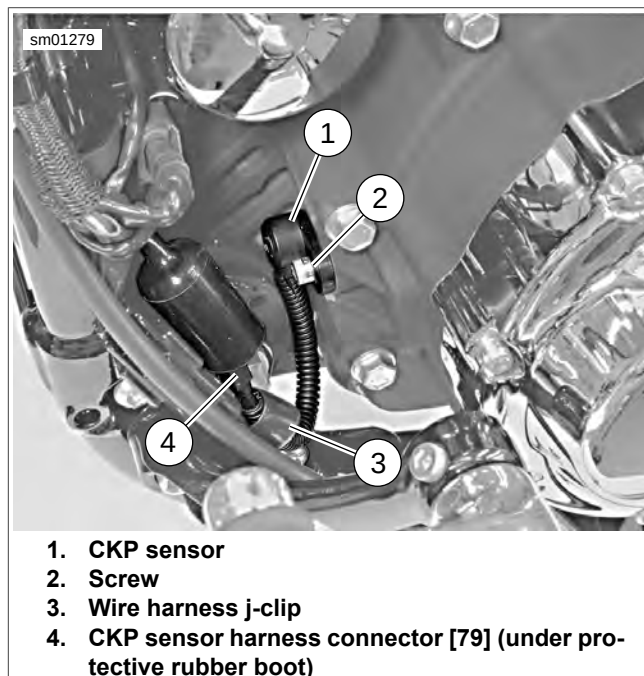

Figure 6-88. CKP Sensor (typical, XL model shown)
2. See Figure 6-88. Disconnect CKP sensor harness connector [79A] from wiring harness connector [79B] (4), located along left frame downtube.
3. Remove CKP wire harness from j-clip (3).
4. Remove screw (2). Carefully remove CKP sensor (1) and O-ring from engine crankcase.
1. See Figure 6-88. Carefully install CKP sensor (1) and O-ring into engine crankcase with screw (2). Tighten to 90-120 in-lbs (10.3-13.6 Nm).
2. Route CKP sensor wiring harness through j-clip (3).
3. Attach CKP sensor harness connector [79A] to wiring harness connector [79B] (4).